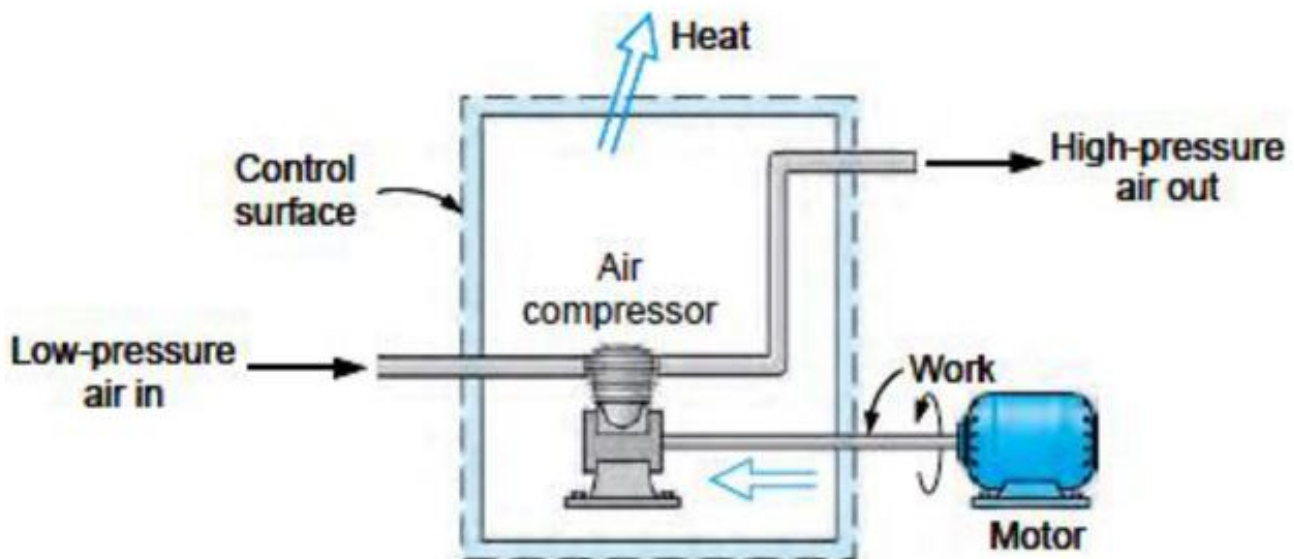

Fig. 1.4 An example of control volume
- Consider an air compressor (open system) as shown in Fig. 1.4. Since compressed air will leave the compressor and be replaced by fresh air, it is not convenient to choose a fixed mass as our system for the analysis.